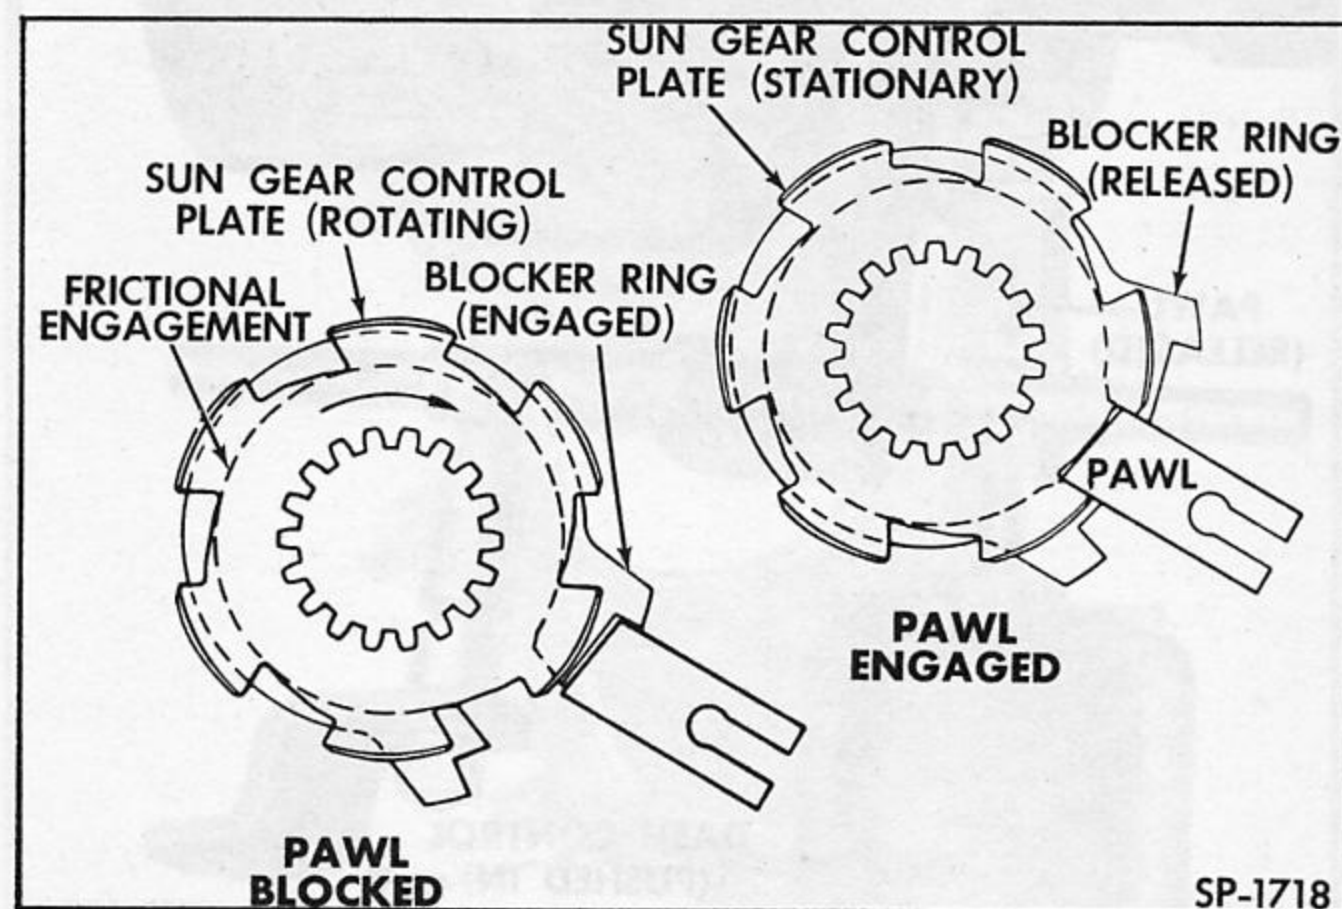

Fig. 140—Operation of Pawl
1. FAST SPEEDS. When the vehicle speed is over 29 MPH, the overdrive governor switch closes to energize the overdrive solenoid. The solenoid pushes a pawl into a blocker ring (Fig. 140).